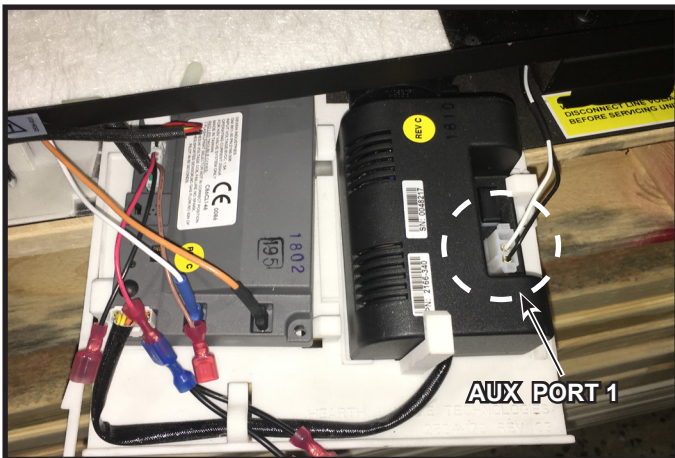

Figure 13.
- Route the light wires as shown in Figure 13 and plug into the AUX port 1 on Auxiliary Control Module. See wiring diagram for reference (Figure 16).